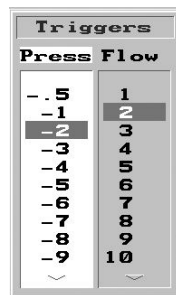

Figure 61: The Triggers Slider Gauges
2. Press the Control Knob. Two sliding numeric gauges appear (Figure 61)